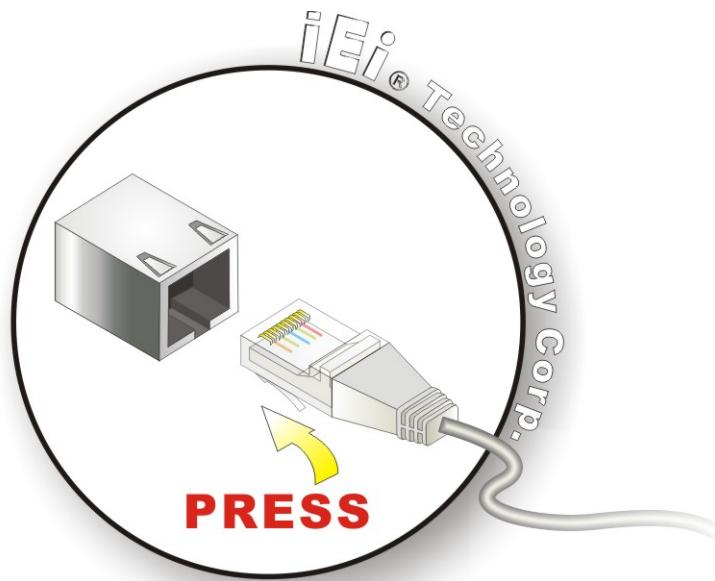

Figure 4-14: LAN Connection
Step 2: Align the connectors. Align the RJ-45 connector on the LAN cable with one of the RJ-45 connectors on the KINO-CV-D25501/N26001. See Figure 4-14.